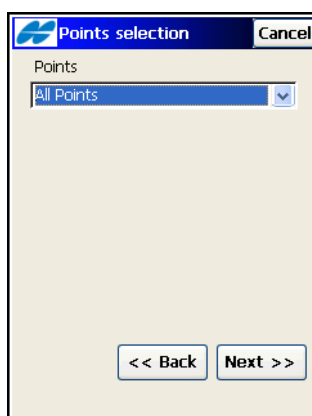

Figure 4-40. Points Selection
- *Points Selection* for Points (Figure 4-40 on page 4-36)
On the Point Selection screen (Figure 4-40 on page 4-36), select the filter type to select the exported Points (Figure 4-40).